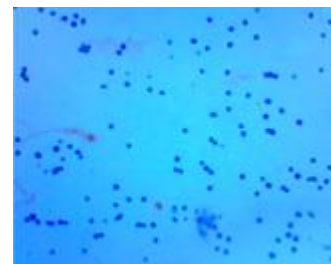

Figure 4: Example of trypan blue stained fixed cells.
- Examples of stained fixed cells are shown below. High quality fixed samples have single distinct cells with <5% aggregation and no debris. Higher levels of aggregation will lead to elevated doublets after sequencing and may indicate a poor quality cell isolation. When quantifying fixed cells, it is critical to avoid counting debris to avoid overestimating the number of cells (Figure 4).